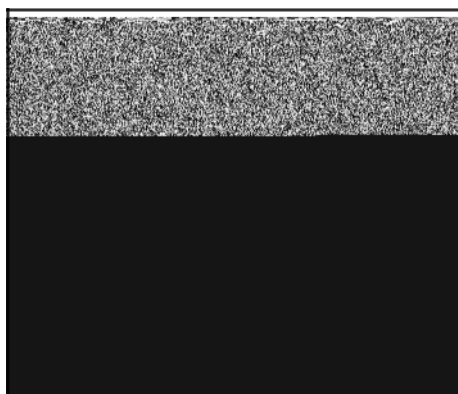

Figure 36
3. Connect meter test leads to two spade terminals of switch (Figure 36). Meter should read no continuity. If switch fails, replace the switch. Push switch lever in until it clicks. Meter should read low resistance. If switch fails, replace the switch.